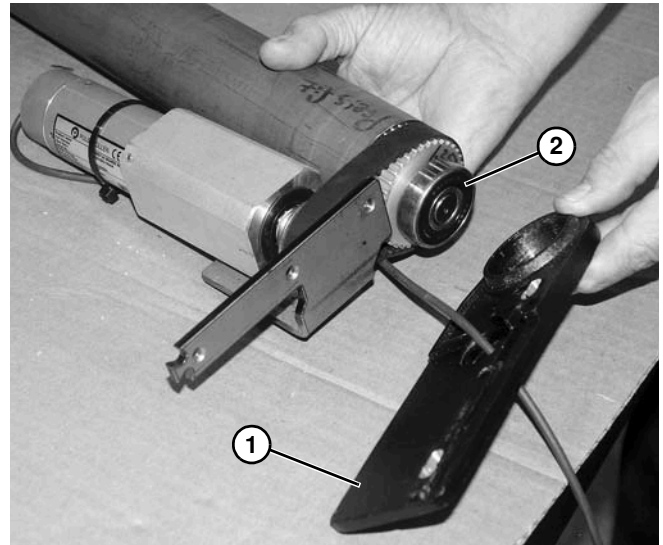

Figure 72
7. Remove end plate (**Figure 72, item 1**) from motor mounting bracket and bearing (**Figure 72, item 2**).